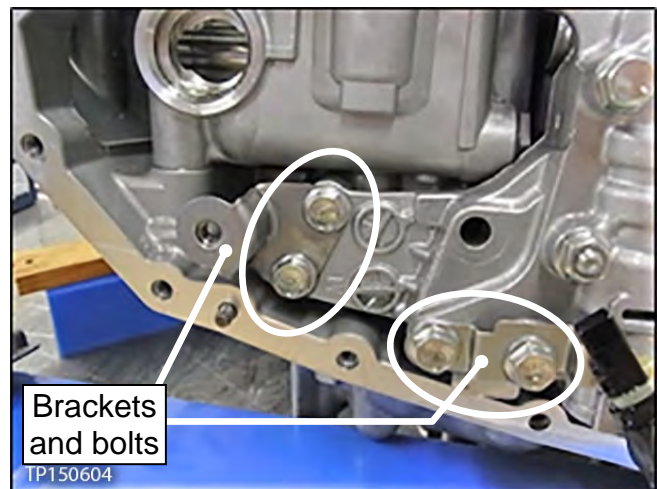

Figure 29
4. Remove the two (2) oil strainer bracket bolts, and then remove the oil strainer bracket (see Figure 29).
5. Remove the two (2) fluid temp sensor bolts, and then disconnect the wiring harness connector (see Figure 29 and 30).